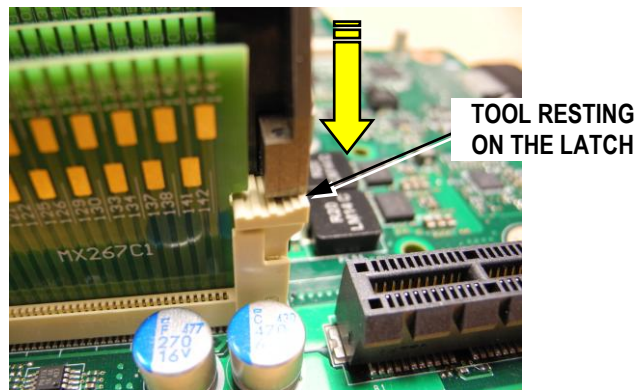

Figure 4
5. Gently push the extraction tool down until the tool rests on the socket latches. See Figure 4.